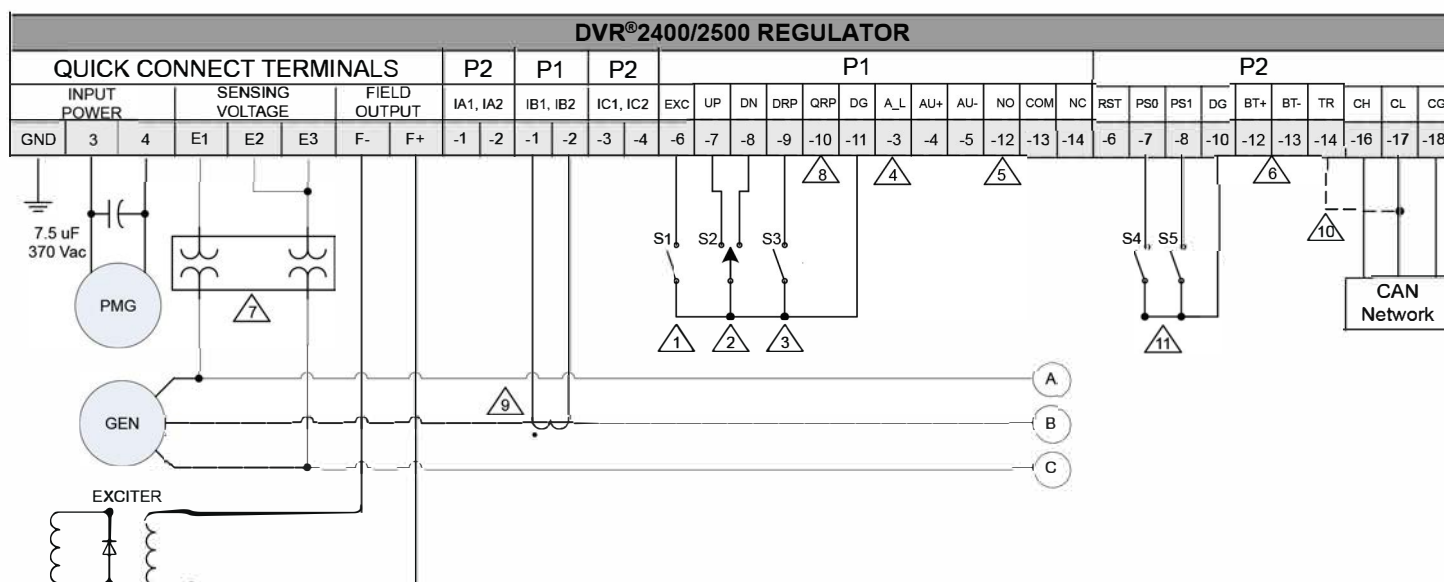
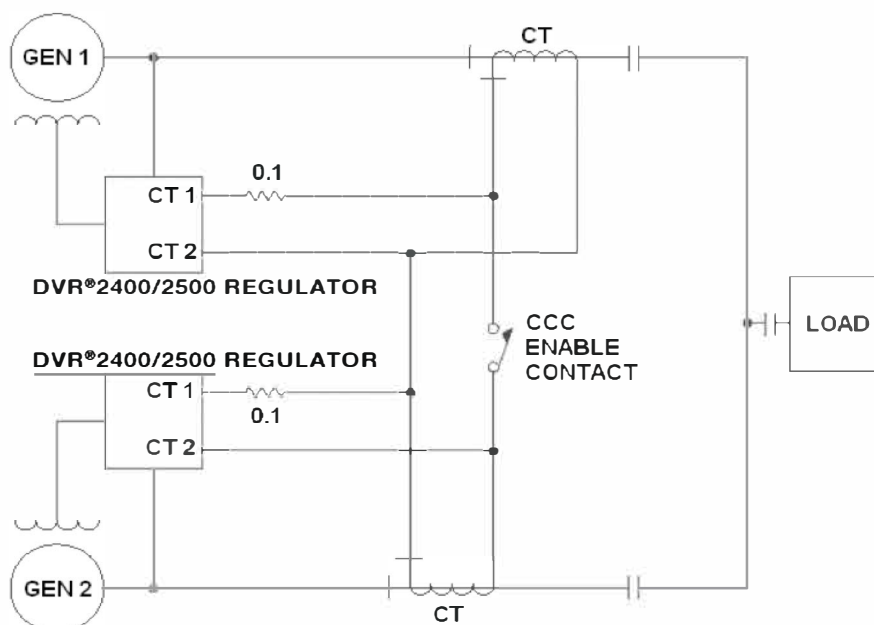

Figure 5-10. Typical Connections with ABC Rotation, Single-Phase Voltage Sensing and Single-Phase Current Sensing
Figure 5-11. Cross-Current (Reactive Differential) Connections for Two Generators
- Figure 5-10 shows an application where the regulator is connected for single-phase voltage sensing and single-phase current sensing.
Figures 5-11 and 5-12 illustrate how the regulators can be interconnected for use in Cross-Current (Reactive Differential) applications. When operating in Cross-Current mode, attention must be paid to the use of the burden resistor shown in Figures 5-10 and 5-11. The burden resistor should have a value of approximately 10 times the cross current loop resistance for proper differential operation. The value of 0.1 ohm is a suggested value. The volt-ampere (VA) capacity of the paralleling current transformers should be considered when sizing the burden resistor.